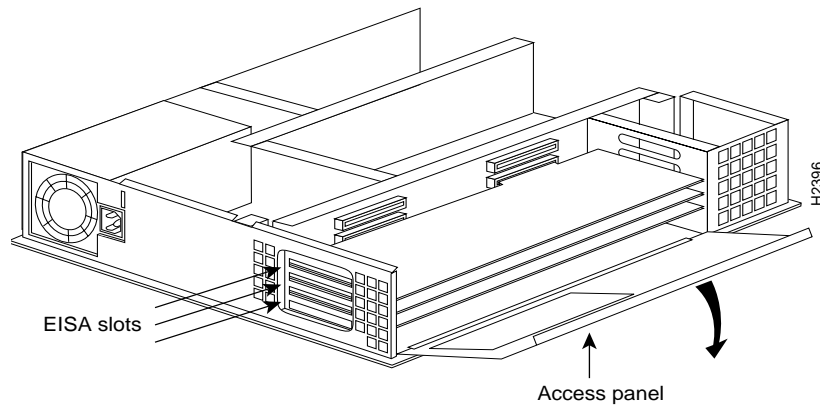

Figure 4-3 Opening Access Panel
- Step 2** Face the rear of the workstation and locate the EISA slots on the right side of the workstation. (See Figure 4-3.)
- Step 3** Open the access panel by pulling up and rotating down to expose the EISA slot covers. (See Figure 4-3.)